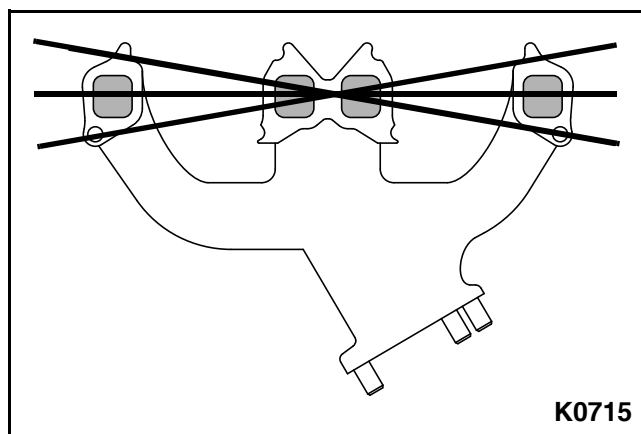

Figure 3-77
3. Inspect exhaust manifold for distortion using a straightedge and feeler gauge as shown. **See Figure 3-77.**